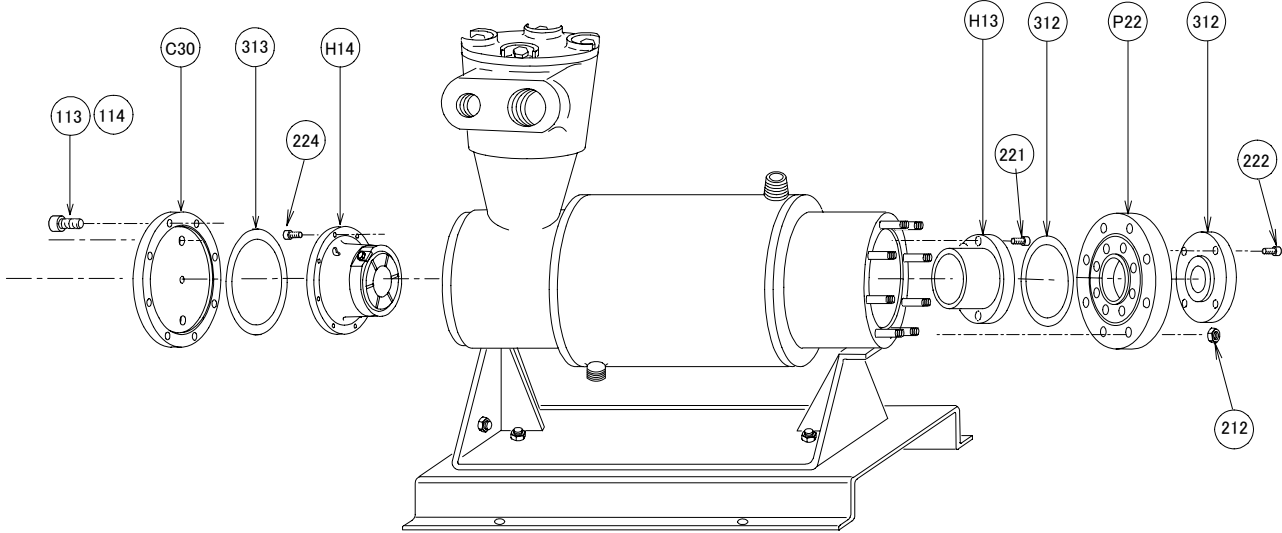

Fig.4-23 Method of Mounting (Motor Frame No. H1, H2)
- (4) When mounting the rear cover (C30), RB housing (H14), FB housing (H13), adapter plate (P22) and liner disk (D05), take care not to forget mounting the gasket (313) and (312) and tighten bolts uniformly. (Refer to Fig.4-23.)